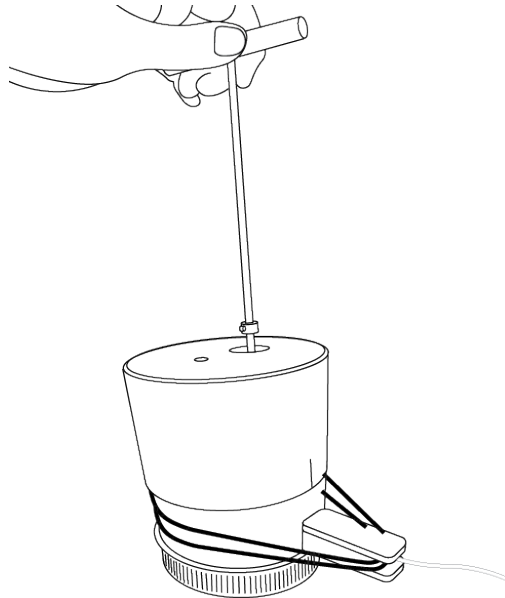

Figure 14 Drilling the holes
3. Use the hand auger to drill both tensiometer shaft holes in the soil sample (Figure 14).